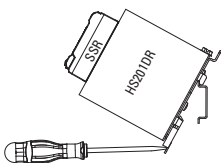

fig. 4 DIN Rail Mounting
- For DIN Rail Mounting install as shown in **fig. 4**. Vertical mounting operation is recommended.